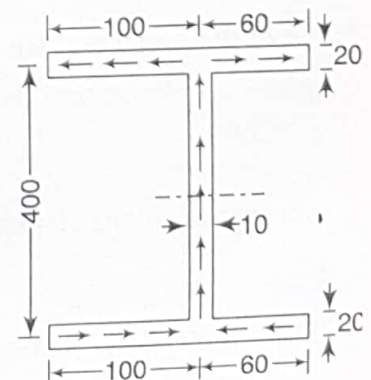

Fig. 6.37
**Example 6.15** || Locate the shear centre for the section shown in Fig. 6.37.
**Given** An I-section as shown in Fig. 6.37